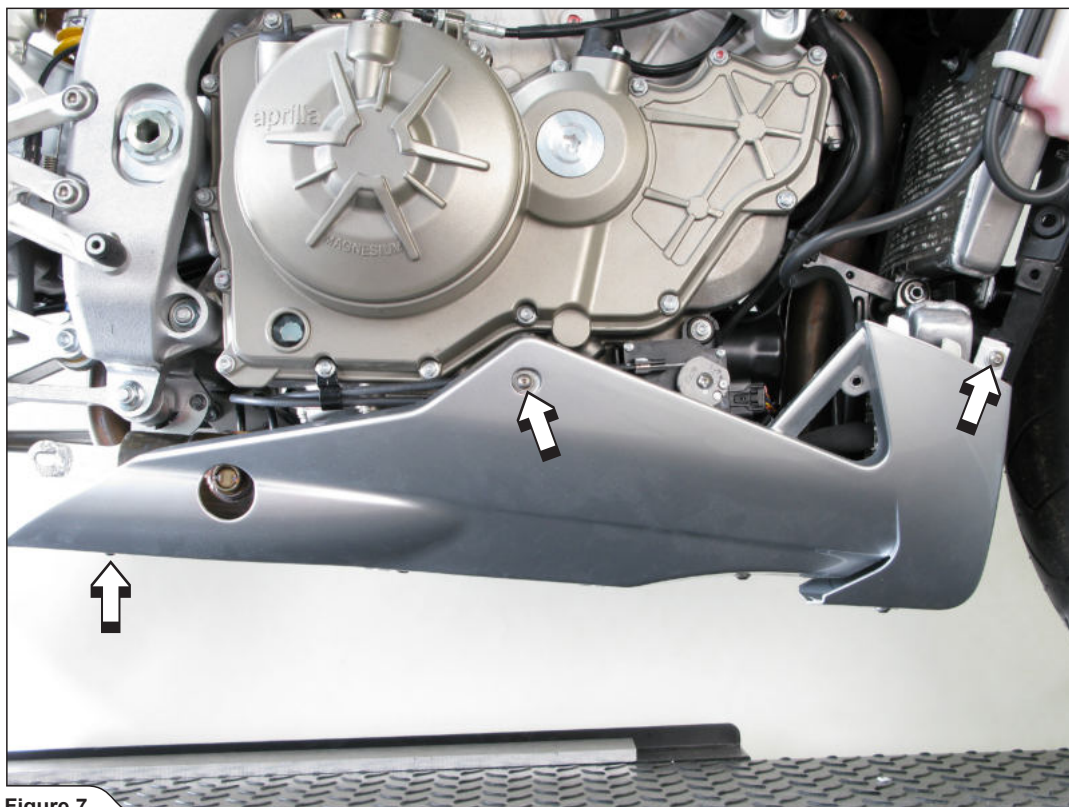

Figure 7
5. Unscrew the marked bolts and remove the lower part of the cowling (Figure 7).